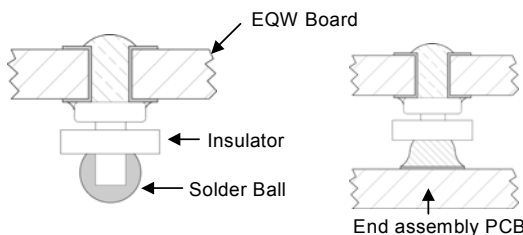

Figure 66. Column Pin Connector Before and After Reflow Soldering.
The surface mountable modules in the EQW family use our newest SMT technology called "Column Pin" (CP) connectors. Figure 66 shows the new CP connector before and after reflow soldering onto the end-board assembly.